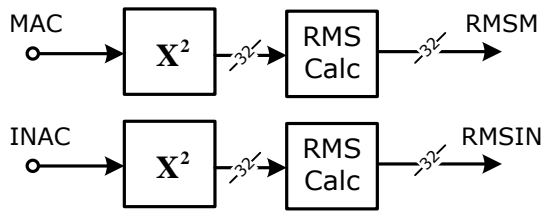

Figure 8-3 Processing Signals 2
2. The AC components of M Channel and Current Channel IN are processed as shown in Figure 8-3. Only RMS calculation is necessary;